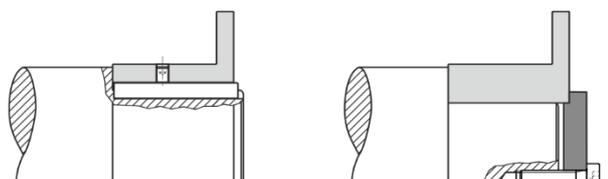

Fig. 5
- Mount the hubs (1/1.4) onto the shafts using a suitable device and secure them axially (Fig. 5). Axial securement takes place using a set screw (adjusting screw), which presses radially onto the key; or via a press cover and a screw, screwed into the shaft threaded center hole.